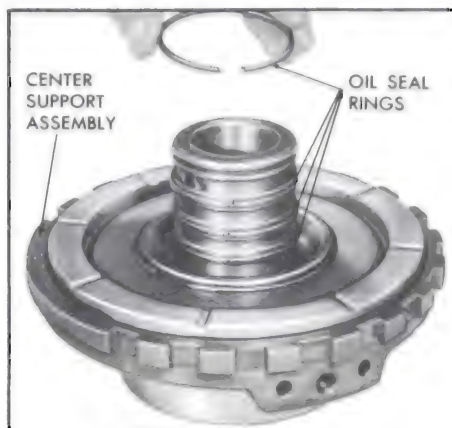

Figure 5-657
6. Using the clutch spring compressor, compress the springs and install the snap ring. See Figure 5-657.